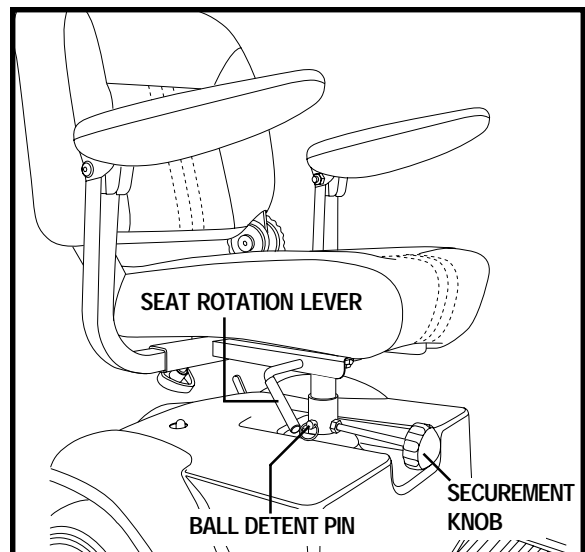

Figure 10. Seat Adjustments
1. Disengage the seat rotation lever to unlock the seat. **See figure 10.**
The seat can be repositioned to different heights. **See figure 10.**